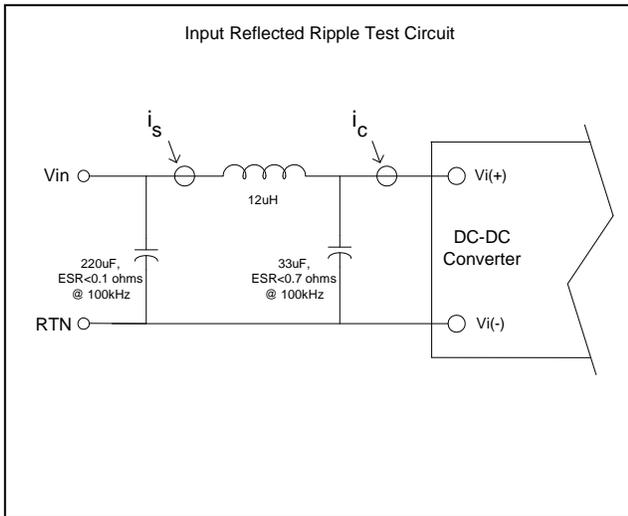

Figure 7 Test circuit used for input ripple current measurement
- (1) $V_{in} = 48V_{dc}$, $T_a = 25\text{ }^{\circ}\text{C}$, Airflow = 200 LFM unless otherwise noted.
- (2) Input Reflected Ripple Current is specified when measured with the filter shown in Figure 7.
- (3) Output Ripple Voltage and noise is specified when measured with a 10uF tantalum and a 1uF ceramic capacitor at the converter output pins.
- (4) Transient response is specified without a capacitor at the output of the converter.
- (5) If remote sense is not required or used, the Sense(+) and Sense(-) pins must be connected to $V_o(+)$ and $V_o(-)$ respectively.
- (6) See 'Remote Sense' and 'Trim Feature' details regarding output voltage range limitations.
- (7) Thermal shutdown is monitored at the 'Thermal Measurement Location' (TML). See 'Mechanical Information' on page 4 for the thermal measurement location.
- (8) See 'Safety Considerations'.
- (9) De-rating curves are conducted in a controlled environment. End application testing is required to ensure the Thermal Measurement Location temperature is below the maximum specified.